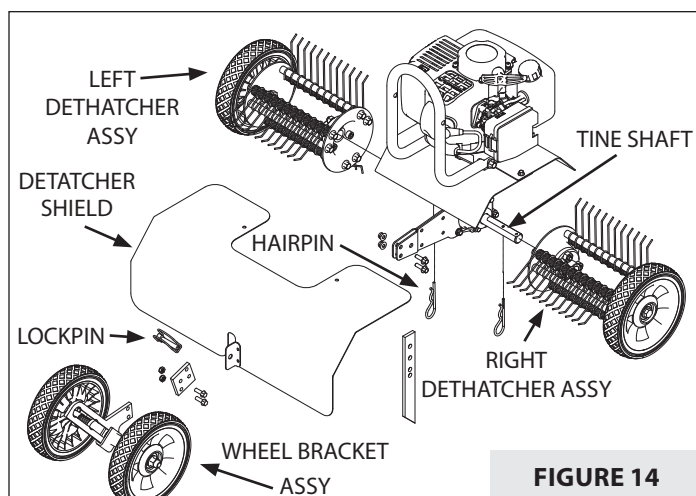

FIGURE 14
2. Unscrew mount bolts/nuts that connect the wheel bracket to the drag stake mount and set wheel bracket aside. **SEE FIGURE 14.**
3. Slide dethatcher shield over the unit's tine shield from the rear of the unit and secure using bolts and nuts. **SEE FIGURES 14 AND 15.**
5. Install wheel extension plate using additional bolts and nuts. Make sure wheel extension is facing the correct direction. (The side, with the two holes flush to the edge, connects to the drag stake mount). **SEE FIGURES 14 AND 15.**
6. Slide the left and right Dethatcher assemblies onto the tine shaft making sure the right assembly is installed on the right side and left assembly is installed on the left side as defined from the user's position. **SEE FIGURE 14.**
7. Secure dethatcher assemblies using the hairpins. The hairpins go through the inner holes of the tine shaft. **SEE FIGURE 14.**